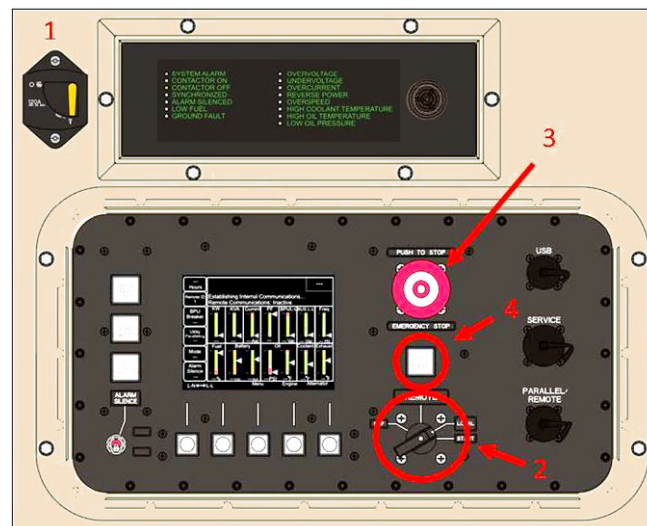

Figure 1-60. DCS.
1. Use the labeled figure 1-60 below for reference. Turn DC electrical disconnect switch (1) to the on position. Set local master control switch (2) to local. Pull out the emergency stop switch (3). Push fault reset switch (4) to clear faults.